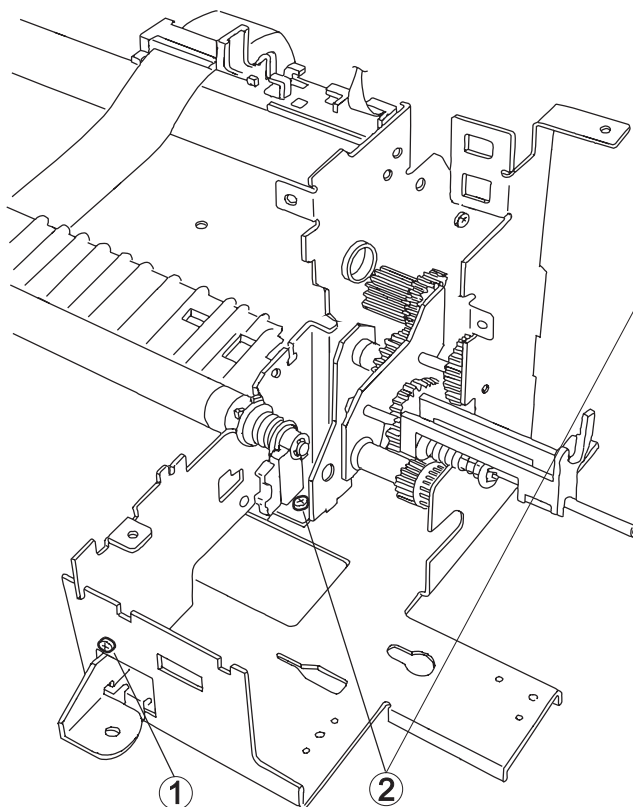

Figure 3-60. Order for Mounting Screws
- Slide the I/S frame forward by releasing 3 joints (2 at the back and 1 on the front of the printer mechanism) for the I/S frame and right frame. Then remove the I/S frame by lowering downward. (See Figure 3-60.)